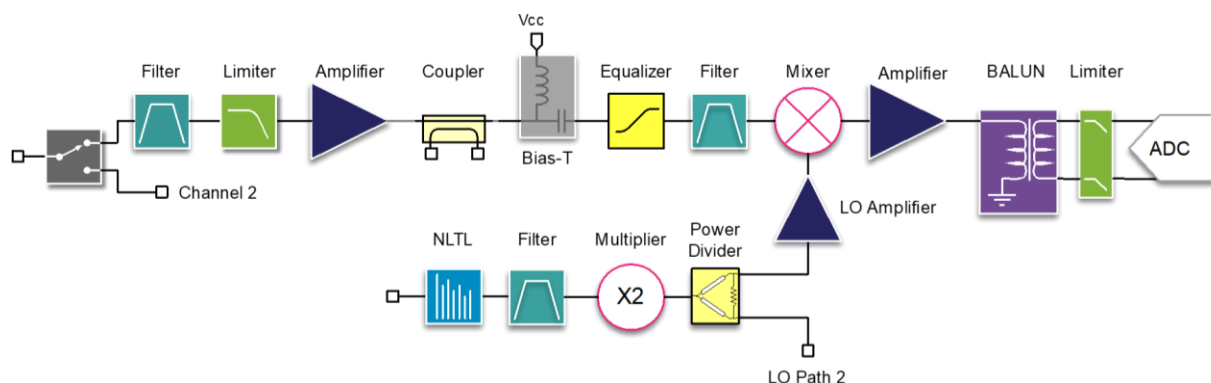

Figure 1. Elements feeding a mmWave mixer can influence its apparent performance in RF system applications
“Customers have significant input to requirements, but most of our products are specified and developed by the engineers who will make the tradeoffs that look the best,” says Doug Jorgesen, VP of Systems and Applications at Marki Microwave. The objective for the ADM-8007PSM was designing a driver amplifier that would deliver optimum performance from the local oscillator (LO) amplifier-mixer combination, shown in Figure 1, placed in a typical mmWave signal chain.